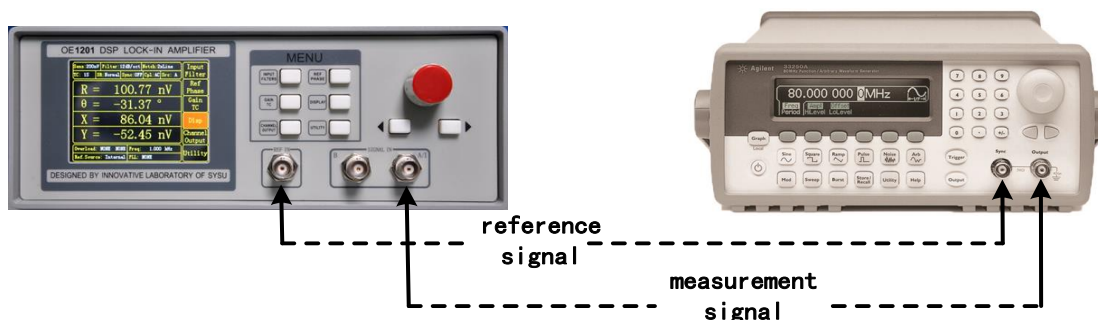

Fig.57 Cable Connection diagram.
2. Use a BNC cable to connect the output of the function signal generator and the A/I input of the OE1201. Use another BNC cable to connect the reference signal of the function signal generator and the REF IN of the OE1201 as the Fig.57.